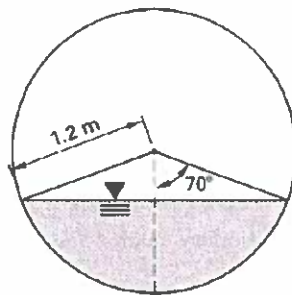

Figure 2. Circular channel flowing partially full..
- (A) the mean radius from the center of flow to the wetted side of the conduit
- (B) the ratio of the cross-sectional area of the conduit and the wetted perimeter
- (C) the ratio of the wetted perimeter and the cross-sectional area of the conduit
- (D) the ratio of the cross-sectional area of flow and the wetted perimeter
7. (5 points) A pipe with a diameter of 2.4 meters is depicted in Figure 2. The pipe is flowing partially full.